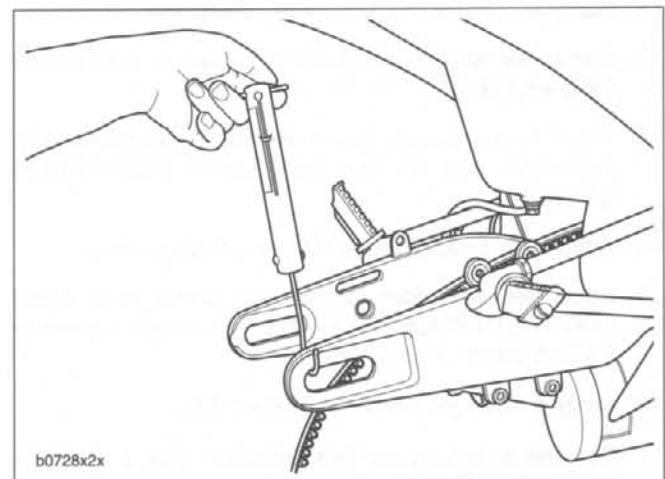

Figure 2-117. Checking Preload
3. Tighten left side swingarm pinch screw (4) to 18-20 ft-lbs (24.4-27.1 Nm).
4. Install threaded rod (1).
- b. Insert threaded rod through right side bearing adjustment bolt (2) into threads on left side bolt (3).
5. Check swingarm preload using a scale as shown in Figure 2-117. Preload should be 3.0-3.75 lbs (1.36-1.70 kg). If preload does not meet specifications, tighten or loosen threaded rod and recheck.